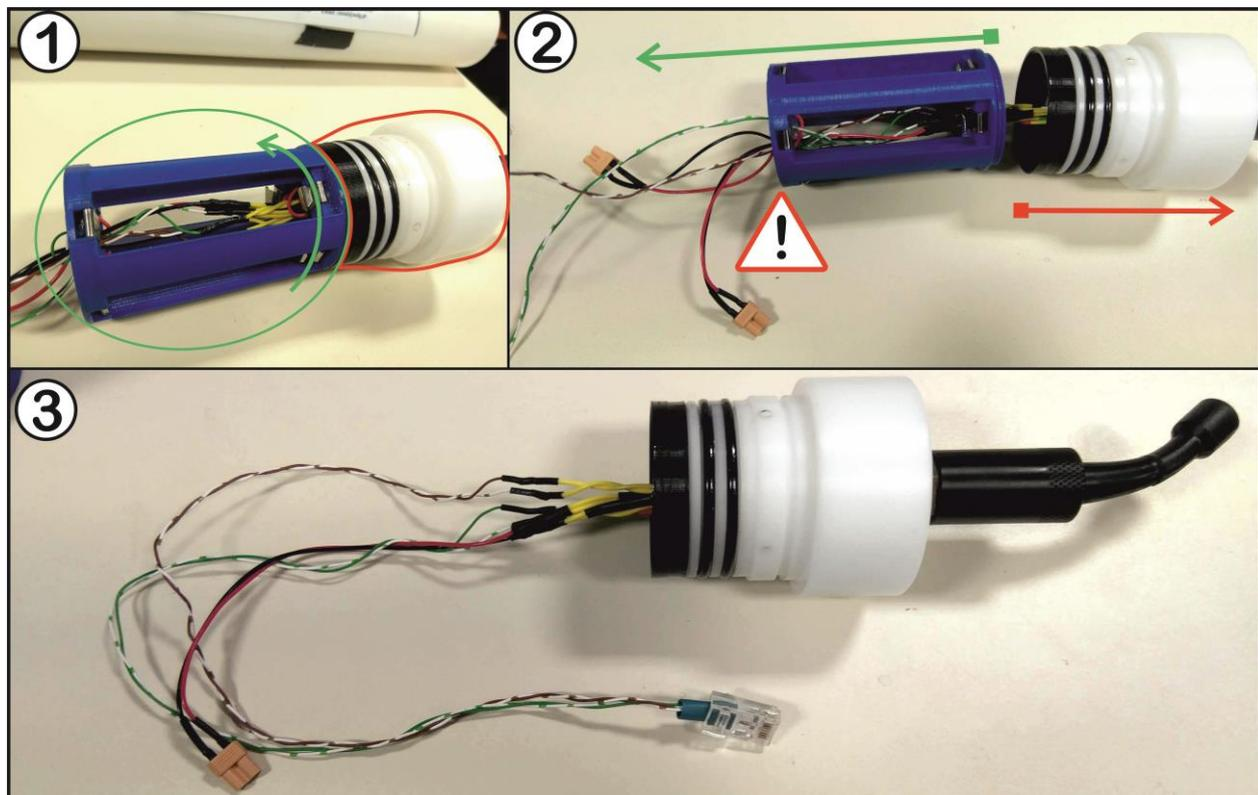

Figure 18 - Removing of battery pack from DAVS end cap
In cabled mode it's possible to use DAVS with or without battery pack inserted. If you don't want to remove the battery pack, just make sure it hasn't any batteries inserted. If you want to remove it follow the sequence from Figure 18 and with all cables disconnected from mainboard unscrew the blue pack gently from white end cap (1) in green arrow direction, then separate it from the end cap cables with care (2). Don't force the cables, if they're stuck use your fingers to lose them.